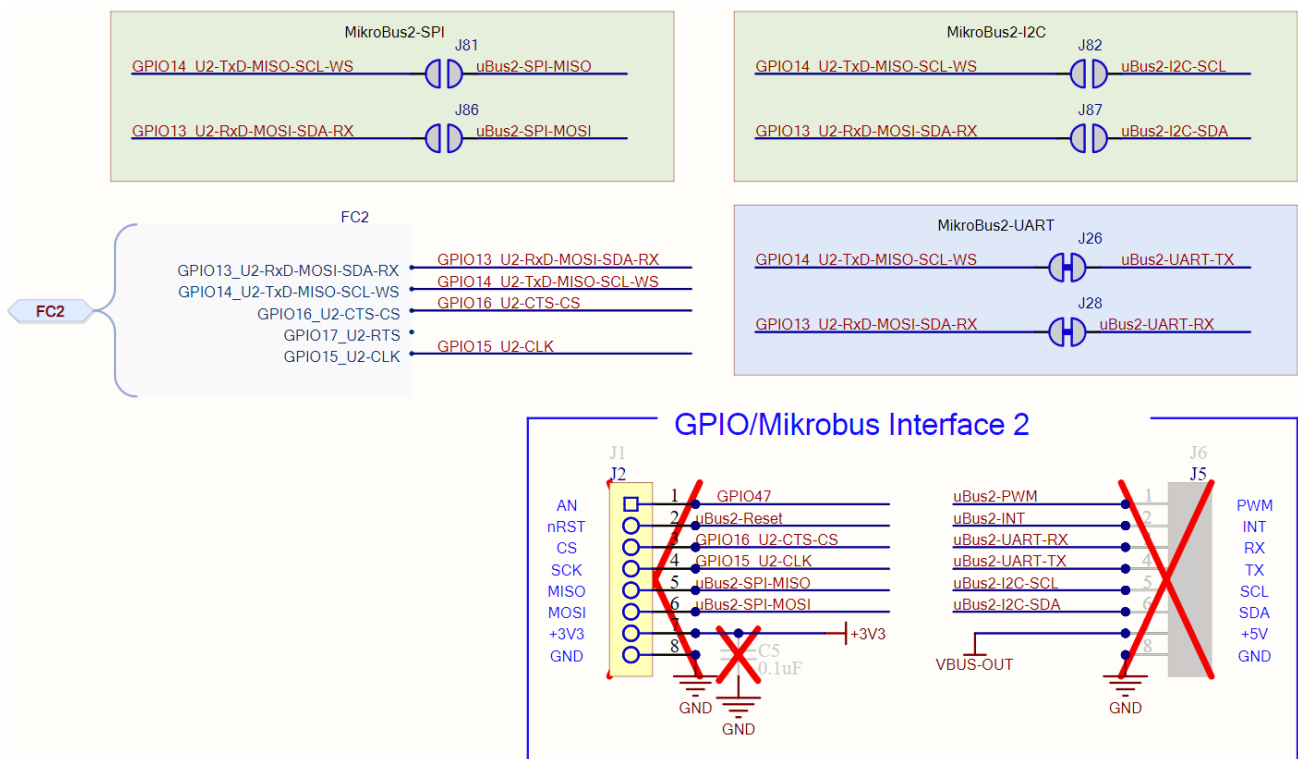

Figure 24: mikroBUS 2 slot signals and Jumper configuration
- To enable I2C or SPI, adjust the state of jumpers J81 and J86 for SPI, or J82 and J87 for I2C, as shown in Figure 24. Also, toggle jumpers J26 and J28 to disable UART.
Figure 24 shows the connection of mikroBUS 2 to the Flexcomm 2 interface.